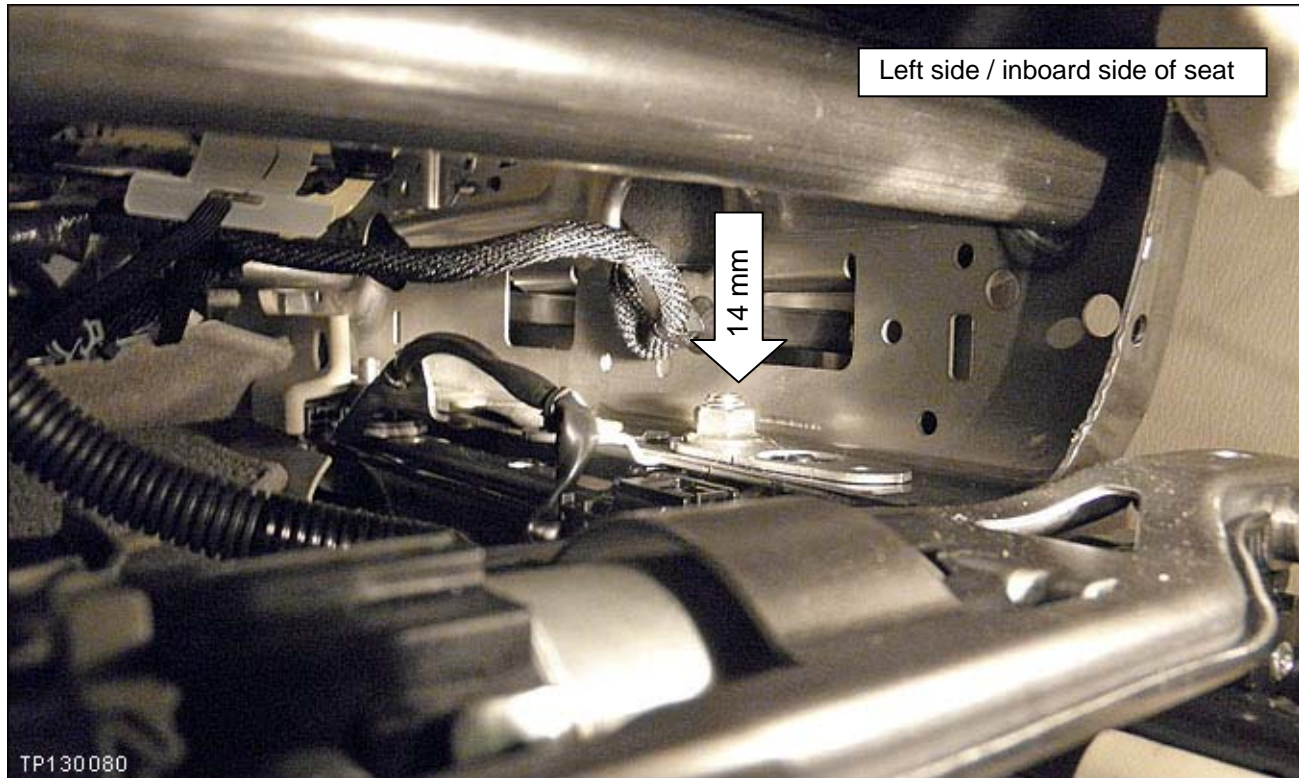

Figure 22
15. From under the front of the seat, install both front 14 mm nuts **finger tight only** (see Figures 22 and 23).